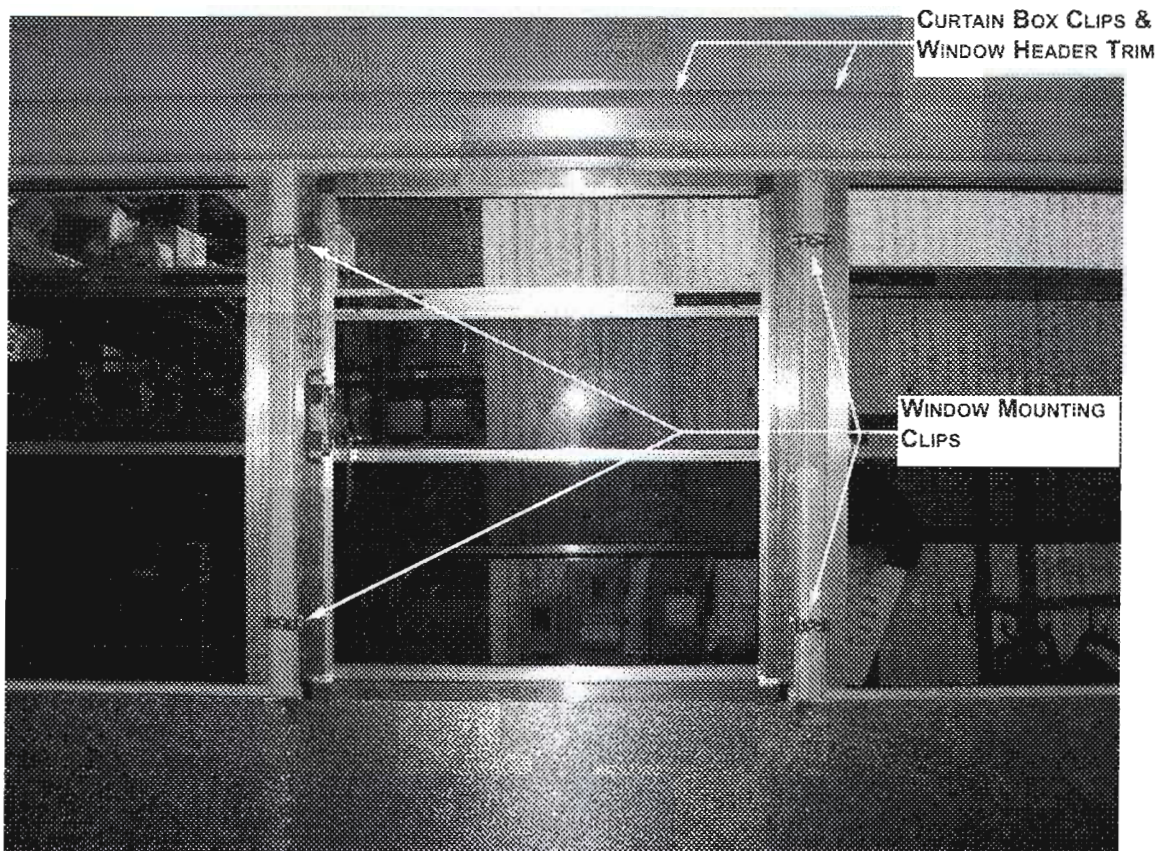

FIGURE 2
2. Remove the curtain box clips and window header trim. **Figure 2**